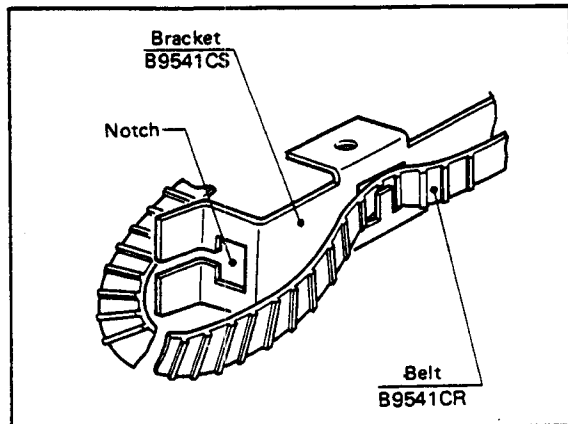

Figure 11-9.
- 2) Fully loosen the belt and pass it through the square notches at both ends of the bracket as shown in Figure 11-9.